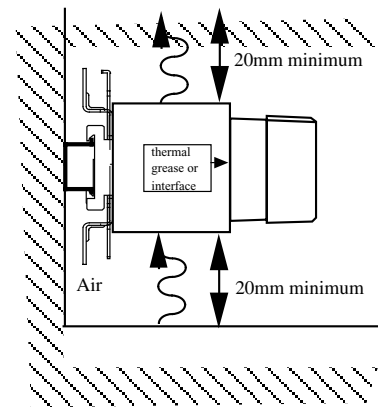

fig 17
- The thermal resistance of a heatsink is defined in determined conditions of use : **vertical mounting (fig 17)**, In the case of use in a severer atmosphere (cabinet with no aeration), include a safety coefficient (20 to 30%).